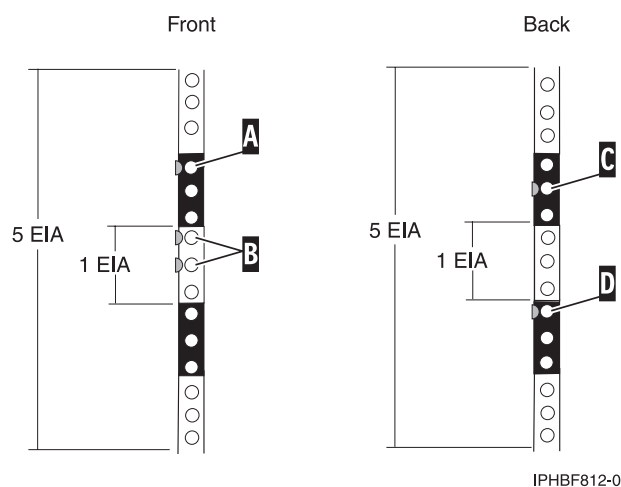

Figure 138. Marking holes on the front and back of the rack frame.
2. Facing the front of the rack and working from the right side, place a self-adhesive dot next to the top hole of the third EIA unit (from the bottom) of the five EIA units you will be using for this system unit as shown in **A** in Figure 138.
3. Place another self-adhesive dot next to the top hole of the second EIA unit from the bottom as shown in **B** in Figure 138.
4. Place another self-adhesive dot next to the middle hole of the second EIA unit from the bottom as show in **B** in Figure 138 on page 136.
6. Go to the back of the rack. On the right side, place a self-adhesive dot next to the middle hole of the third EIA unit from the bottom, **C** in Figure 138 on page 136.
7. Place a self-adhesive dot at the top hole of the first EIA unit, **D** in Figure 138 on page 136.